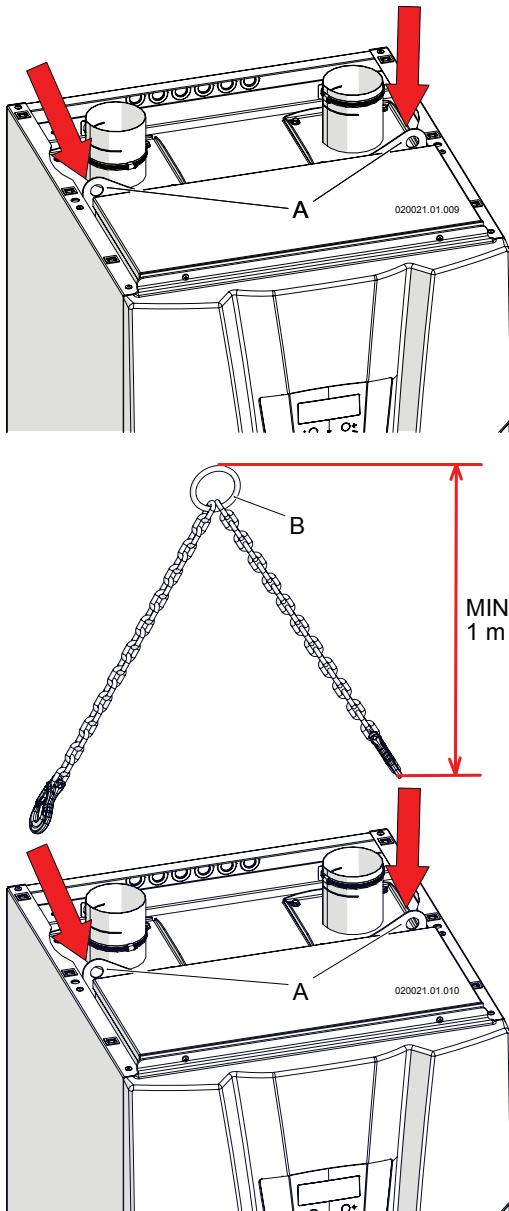

Figure 6-1 - Lifting system
For convenience during installation, a rod is provided (detail "A" in figure 6-1) which enables the boiler to be lifted.
- ☞ hook lifting cables, "B" in figure 6-1, onto the rod, "A" in figure 6-1 and lift the heating unit;
Once the boiler is in the correct position the lifting cables (detail "B" in figure 6-1) must be removed before the top cover is put on.